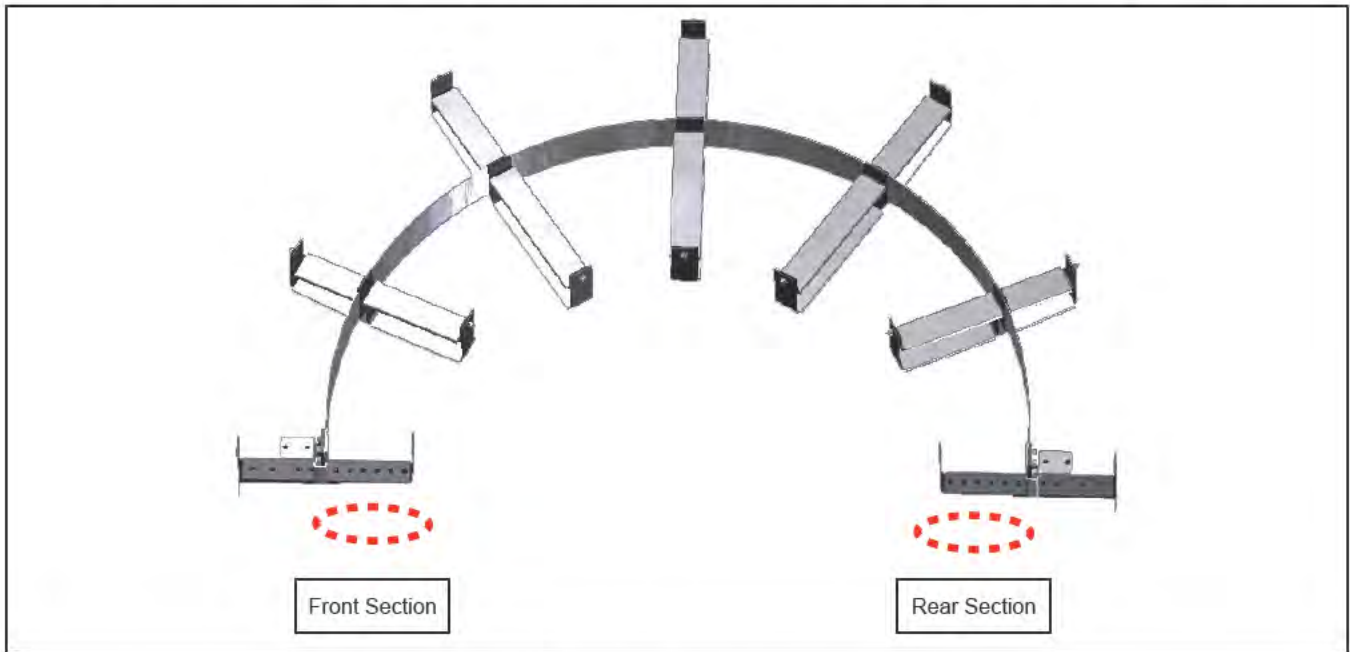
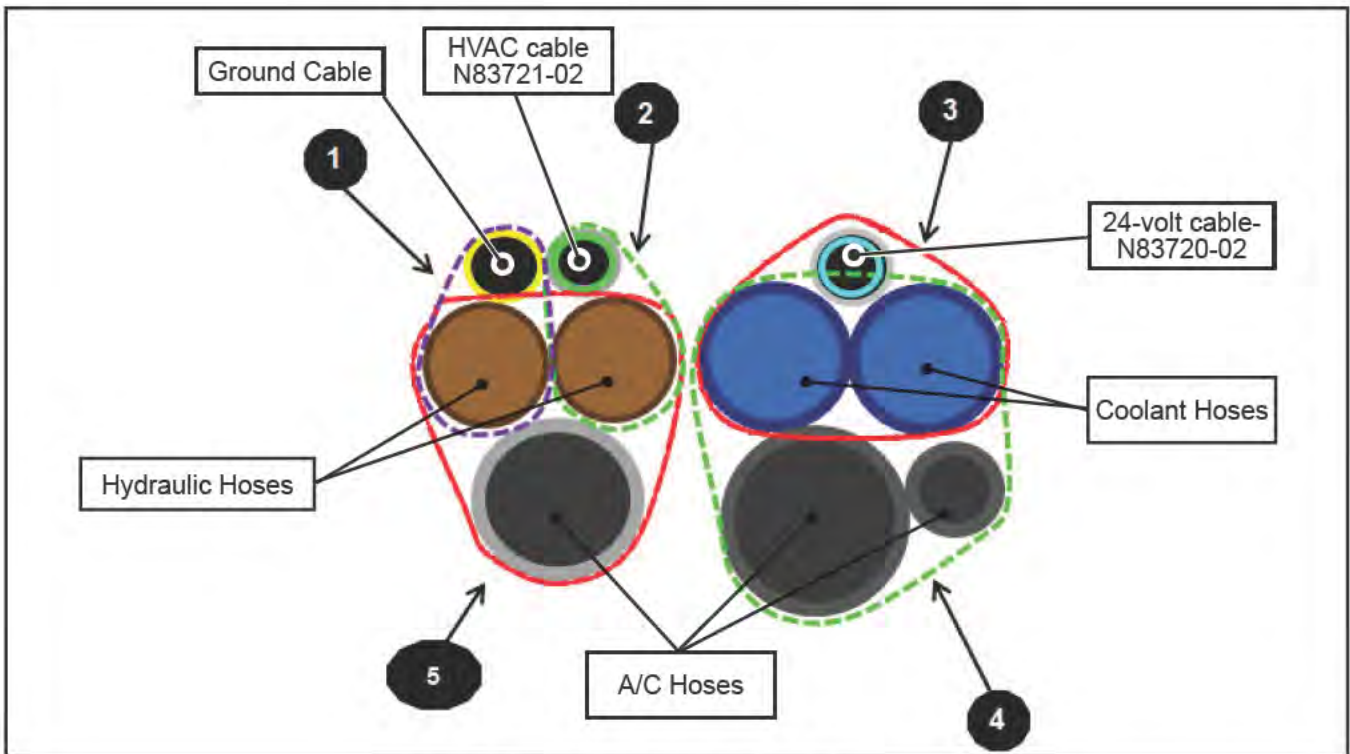

Figure 6 - Attach Upper Hoses to the Lower Ones at These Two Places
Figure 7 - Use Five Cable Ties, Front Section View (typical for the rear)
- 2.8. Use cable ties to attach the hoses from the lower left tray to the components of the upper left tray. See Figure 6 for the 2 locations and Figure 7 for the routing of the cable ties.